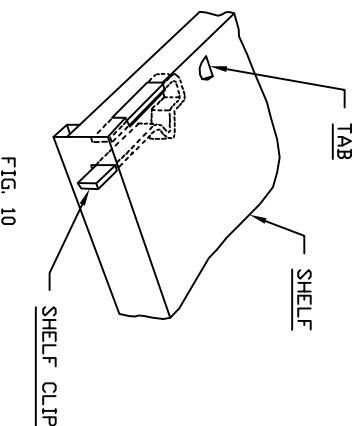

FIG. 10
- Fig. 6. OPEN DOORS AND INSTALL INTERMEDIATE SHELVES. SEE FIG. 10. HOOK REAR FLANGE OF SHELF INTO LOUVERS ON BACK PANEL. PIVOT FRONT OF SHELF DOWNWARD UNTIL LEVEL. AND SNAP SHELF CLIPS THROUGH SLOTS IN END PANEL AT FRONT CORNERS.
4. INSTALL SHELF SHEETS ON TO CORNER OF HALF SHELVES AND BEND TABS DOWNWARD. SEE FIG. 10. INSTALL THE SHEETS ON TO CABINET WITH REAR FLANGE IN LOUVER AT BACK AND SIDE FLANGE IN DOORS ON SHELF DIVIDER. FASTEN SHELF CLIP INTO SLOTS OF CABINET END PANEL AND DOOR FRAME. SEE FIG. 10 & 11.